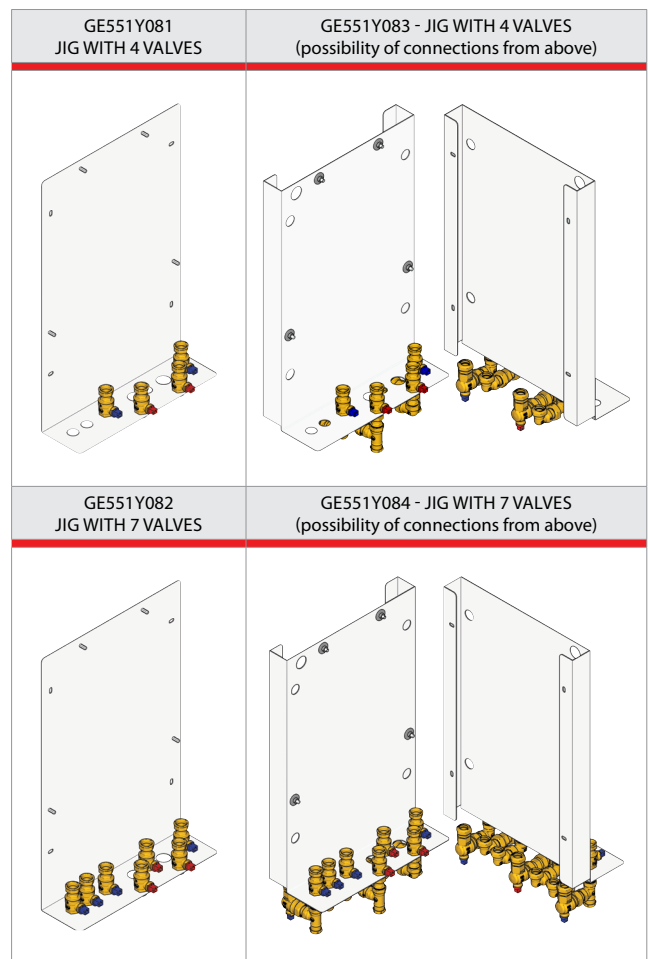

Figure 3 – type of jigs
- Jig with valves and 3/4" connections: GE551Y081 & GE551Y082 (table 1 and fig.3)
- Jig with valves, filters and Ø 22 mm connections: GE551Y083 & GE551Y084 (table 1 and fig. 3 & 4)